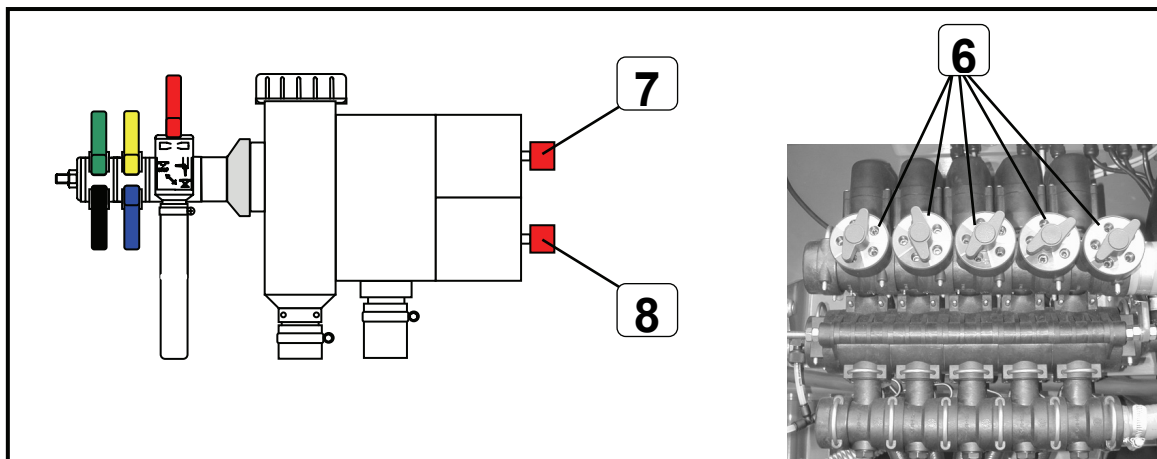

Fig. 3
Motor (8) (fig. 3) for the agitator switch-off is actuated via switch (5). The return agitator can be switched off as required, e.g. for complete emptying of the container or also for foaming pesticides.